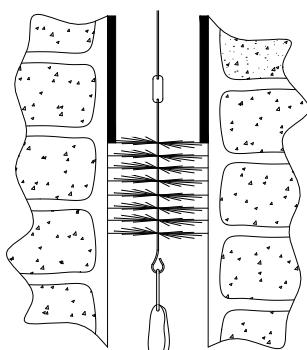

Fig. 1
- Once the deflection plate has been removed, you will be able to access the chimney. Clean the conduit using a special chimney brush with a weight as described in fig. 1.